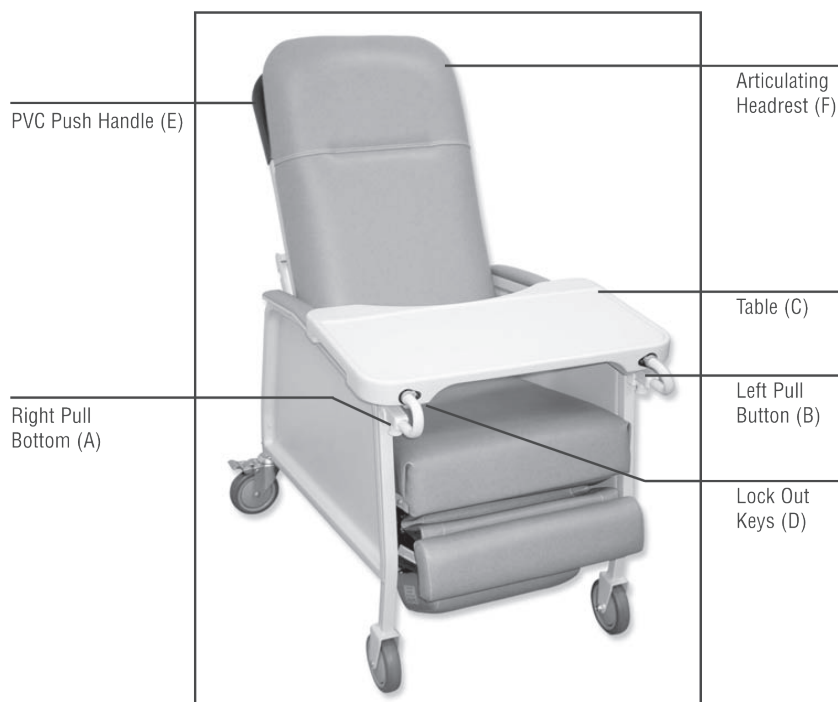

Figure 2
1. Underneath each arm, pull down and hold pull button (Fig. 2 A&B) and slide lockout keys forward on both sides (D).